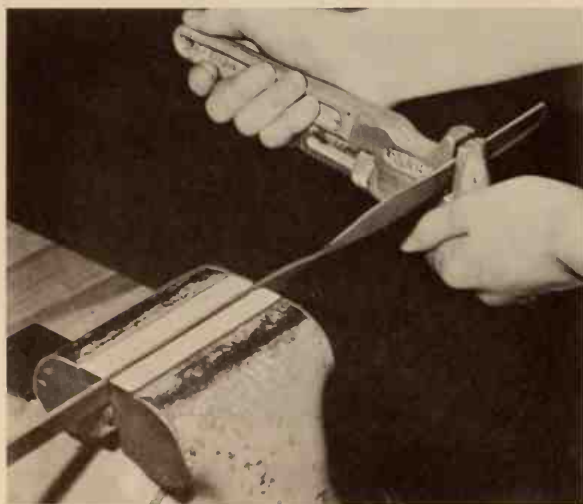

Fig. 4-64. Twisting metal with a wrench.
3. Place the metal to be twisted in a vise with one of the limit marks for the section to be twisted even with the outer edge of the vise jaw. Short pieces should be clamped in a vertical position, and long pieces should be clamped in a horizontal position. Clamp a monkey wrench at the other end of the section to be twisted, Fig. 4-64. The twist may be made to the right or left. Rotate the wrench until the desired number of twists have been obtained.